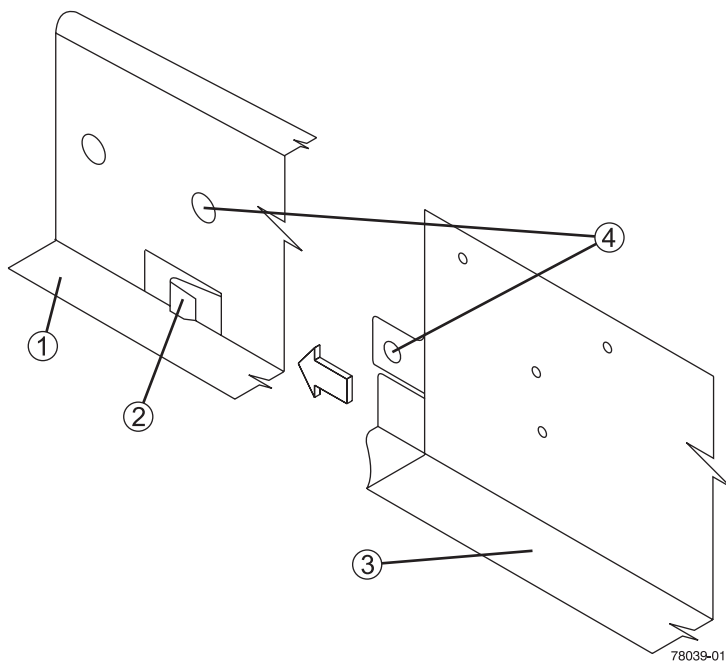

Figure 1-23 Sliding the RAID/Disk Enclosure into the Rail's Rear Clip
Finish the installation of the rails and install the RAID/disk enclosure using the following steps and Figure 1-23 on page 29.
Note: The holes in the disk enclosure sheet metal for the rear hold-down screws should align with the captured nuts in the side of the support rails as in item 4 of Figure 1-23.